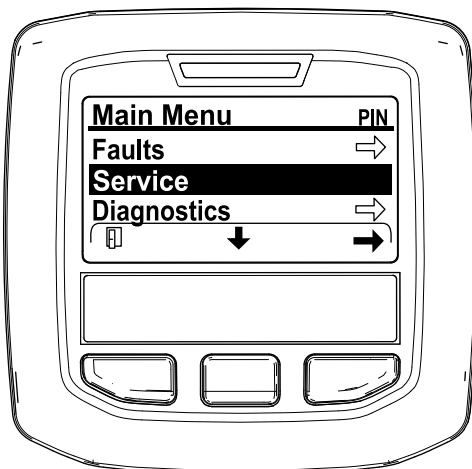

Figure 48
2. Navigate to the MAIN MENU, press the center button to scroll down to the SERVICE MENU, and press the right button to select the SERVICE option (Figure 48).